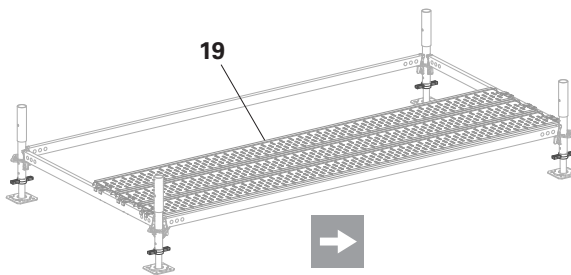
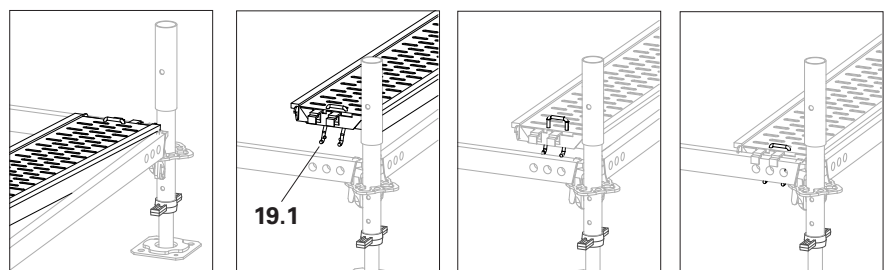

Fig. A3.03
Fig. A3.03a
4. Fit temporary Steel Decks UDG-2 (**19**) in the base level as an installation aid. (Fig. A3.03 + Fig. A3.03a)